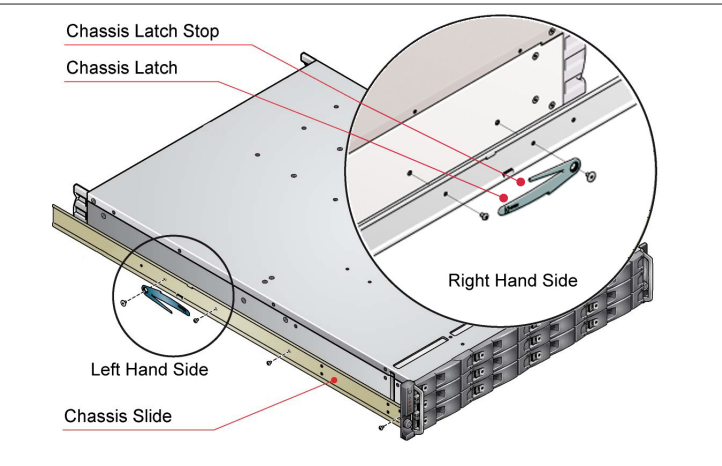

Figure 2: Securing Chassis Slides to Enclosure
- Attach the left and right chassis slides to the enclosure sides using 6 M3 x 4 button head screws. Three screws each side see Figure 2 for locations.
- Assemble the left and right chassis latches using the chassis latch screws. Ensure that the latch is orientated as shown in Figure 2, with the spring arm (small arm portion) located against its stop. On the right hand side the stop is located at the top, and on the left side it is located at the bottom.